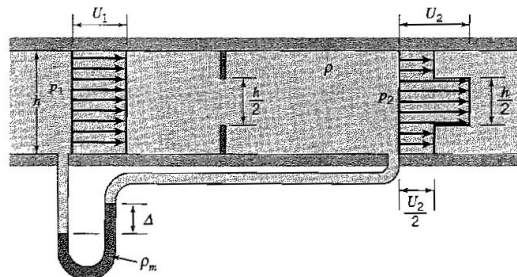

Figure P3.21
3.21 Air is flowing through a duct of square cross-section of height h , as shown in Figure P3.21. An orifice plate with a square hole measuring $\frac{1}{2}h$ by $\frac{1}{2}h$ is placed on the centerline. The plate experiences a drag force F_D . The air density ρ is constant. Far upstream, the pressure and velocity are uniform and equal to p_1 and U_1 , respectively. Far downstream, the pressure is p_2 and the velocity distribution is as shown. A manometer measures the pressure difference, and shows a deflection of Δ . The manometer fluid has a density ρ_m . The flow is steady, and friction can be neglected. Find the maximum velocity at the outlet U_2 in terms of U_1 , and the drag force F_D in terms of h , ρ , ρ_m , Δ , g and U_1 .